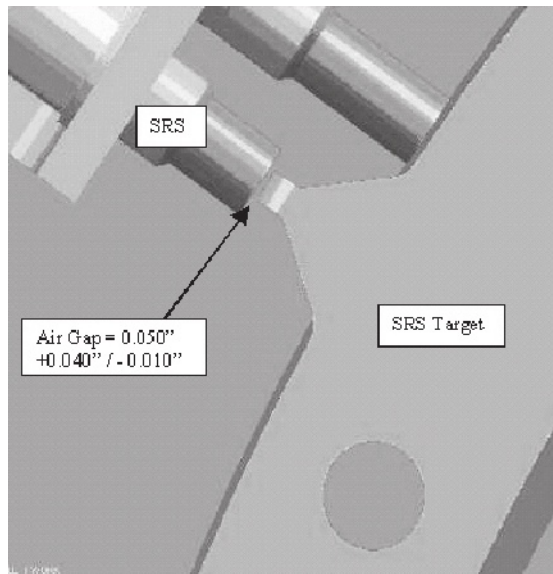

Figure 7.16 Checking SRS Air Gap.
3. Rotate the crankshaft until the SRS sensor is aligned with the SRS target, as shown in Figure 7.16, and verify that the air gap is 0.050" \pm 0.020" \pm 0.010". If the gap is incorrect, repeat the setting procedure.